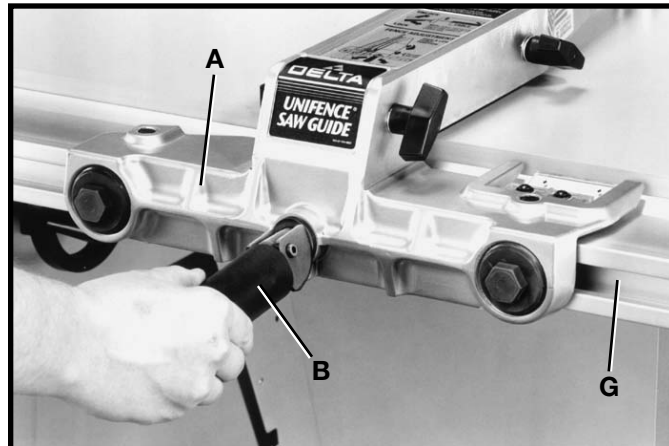

Fig. 71
2. Place fence body (A) Fig. 71, onto the guide rail as shown, making sure clamp bracket is inserted into channel (G) on rail. Notice that the clamp handle (B) is turned to the left indent position.